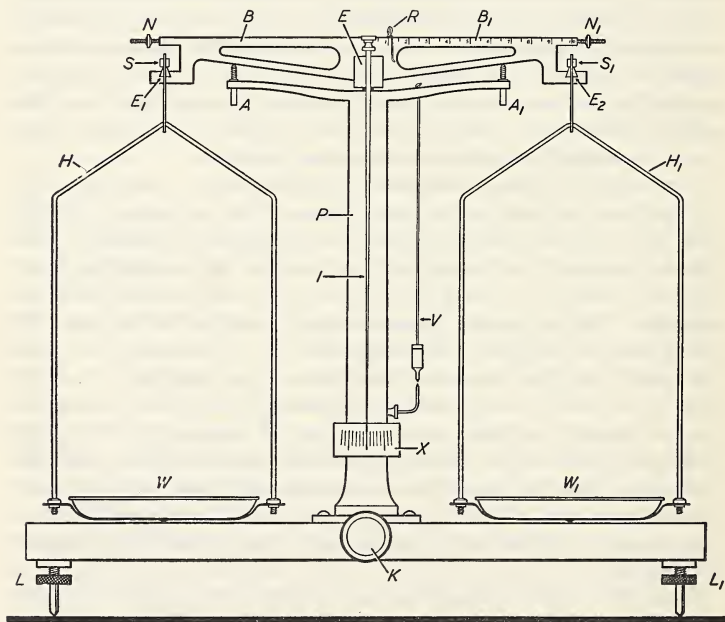

Fig. 15. A chemical balance
Figure 15 represents an inexpensive simple model. A vertical pillar (P) is firmly attached to a wooden base. The metal beam (B B_1) acts as a lever and has a central wedge-shaped knife-edge which points downward and rests upon a true surface or bearing-plane situated at the top of the pillar, when the balance is in the weighing position. This permits the beam to swing freely on the fulcrum with a minimum of friction. Some models have a V-shaped groove at the top of the pillar instead of the flattened bearing-plane. A knife-edge is also found at each end of the beam (E_1 and E_2). These are turned upwards and support the stirrups (S and S_1) by fitting into V-shaped grooves with which the stirrups are provided. All the knife-edges and bearing-planes are constructed from polished agate or hardened steel. Each stirrup has a notched hook which holds a pan support (H and H_1), which carry the removable scale-pans (W and W_1).
The sliding weight or rider (R) is a looped wire of known weight, bent so that it can be placed astride the beam. It may be moved along the beam when weights of less than 0.01 gm. are required. In the balance (Fig. 15), the rider may be moved along the right-hand side of the beam. In more expensive models, graduations occur on both sides of the centre, so that the weight of the rider can be subtracted as well as added.
The student is advised to sit in front of a chemical balance, read the description a second time, and identify the different parts by reference to Figure 15.